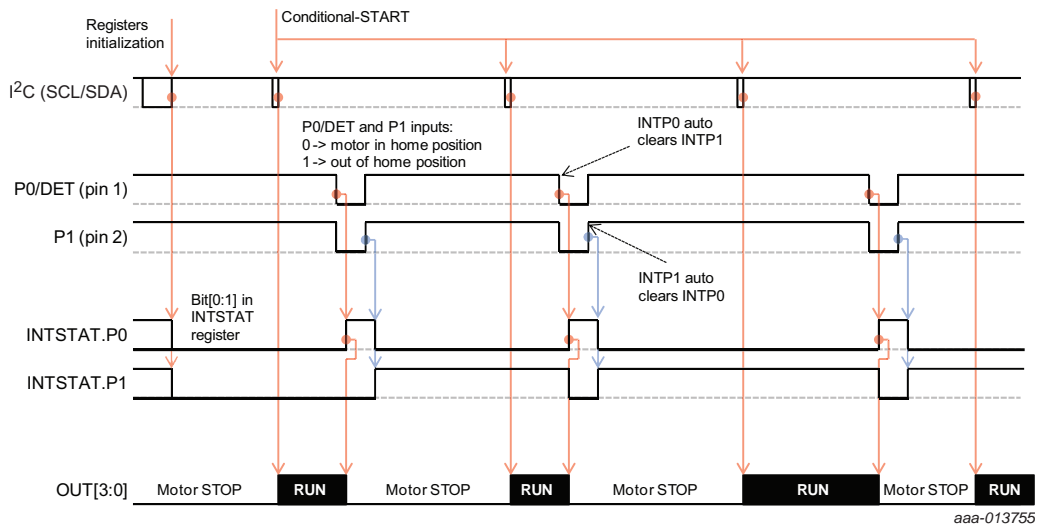
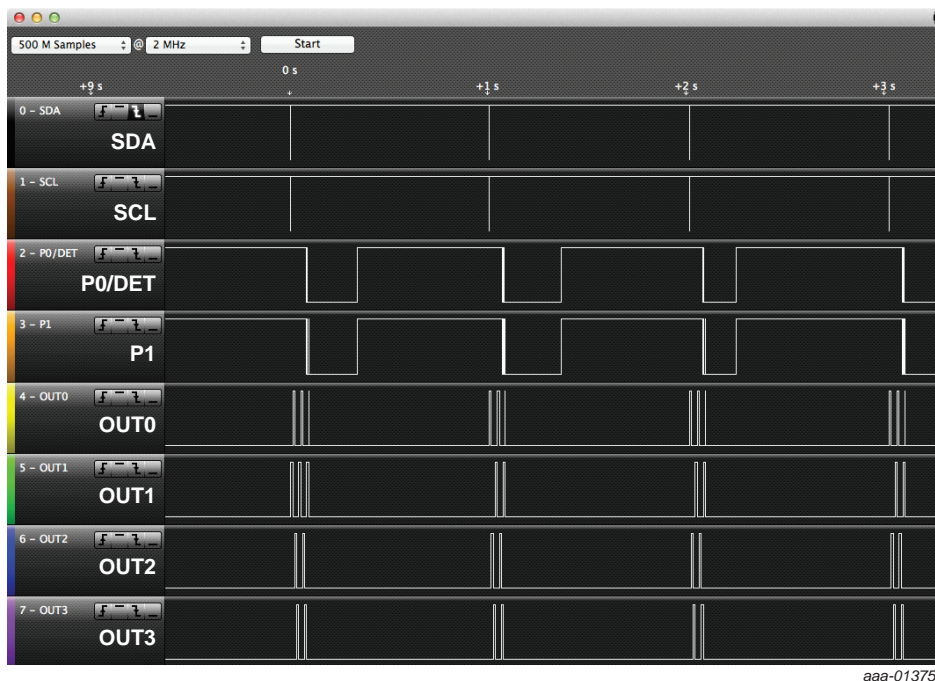

Fig 27. Motor home-position control (option 2) signals with internal interrupt status bits
Fig 28. Home-position control (option 2) signal waveforms
- **Write MCNTL = 0x90h** — to conditional-start motor if P0 input state is HIGH, then motor is started until the P0 input state is detected as LOW (motor is moved to right position) as shown in Figure 27 and Figure 28 for control signals and waveforms.